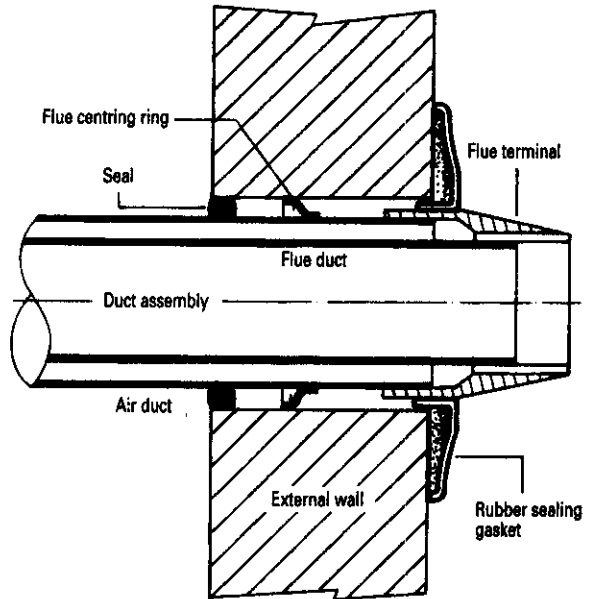

Fig. 33. Gas control valve adjustment.
Disconnect the electrical supply plug from the solenoid operator on the gas valve adjacent to the Modureg actuator by unscrewing the retaining screw. See Fig. 33.
Reconnect the electrical supply plug to the gas valve. See Fig. 33.
Loosen the burner pressure test point screw and connect a pressure gauge. See Fig. 33.
If the burner pressure is low check that the supply pressure at the gas valve is at least 19 mbar (7.6in wg). See Fig. 33.
- Remove the grey plastic cover over the pressure adjustment screws on the gas valve. Place a small screwdriver in one of the slots and carefully lift the cap. See Fig. 33.